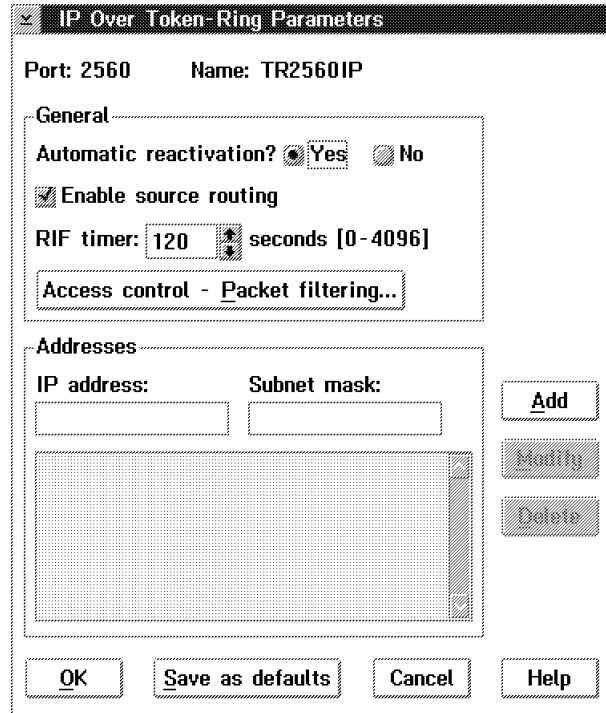

Figure 6-3. IP Over Token-Ring Parameters Window
**Step 10. IP parameters** → **IP over Token-Ring Parameters** window (see Figure 6-3).